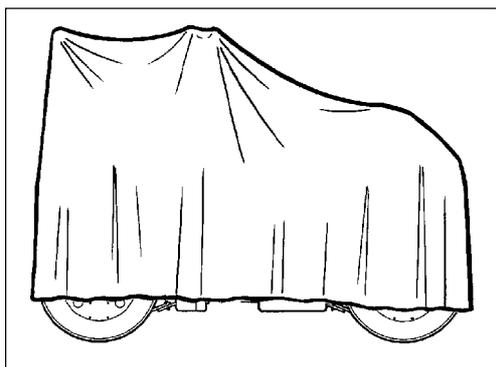

Fig. 42 Weather-protected roller
- * Lower the instrument shield on the steering column. Cover the whole machine with a tarpaulin. NOTE: The tarpaulin must hang free from the ground (see figure 42). Store the roller indoors if possible, preferably at an even temperature.